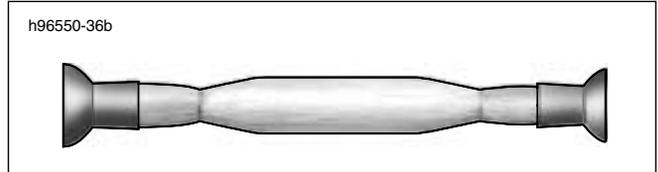

Figure 3-24. Valve Lapping Tool (Part No. HD-96550-36A)
9. See Figure 3-24. Obtain the VALVE LAPPING TOOL (HD-96550-36A) and proceed as follows: